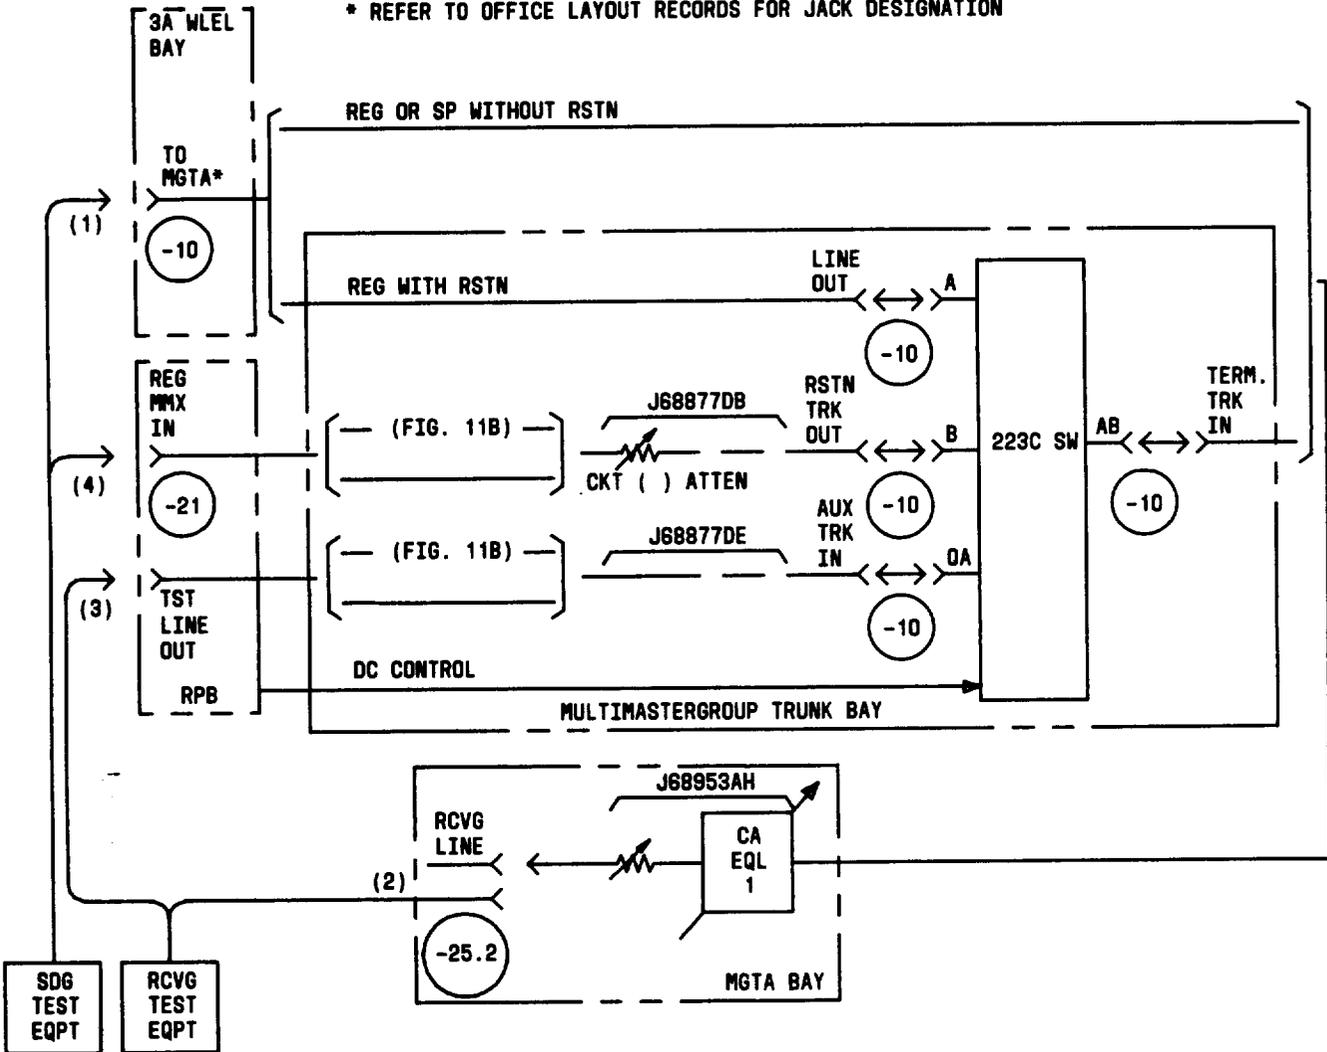

Fig. 10—Receiving Trunks for MGTA
26 Connect the STE to the appropriate **TO MGTA** jack in the WLEL bay [patch (1), Fig. 10].
31	Remove patch (2), Fig. 10
33	Make patch (3), Fig. 10. Note: The operated 223C switch completes a signal path between the A and 0A jacks on the switch.
35	Proceed to Step 36 if the requirement is met. Otherwise, continue signal tracing to locate and clear the trouble. Then repeat Steps 32 through 34. Note 1: Two zero-loss trunks (Fig. 11B) may be used in conjunction with this trunk. In this case, the zero-loss trunks should be tested as prescribed in Chart 10B. The zero-loss trunks are indicated in Fig. 10 by the designation Fig. 11B. Note 2: Chart 12 is a procedure for checking the cable equalizers in the J68877DB, J68877DE, and J68953AH panels.
37	Remove patches (1) and (3), Fig. 10.
39	Connect the STE to the REG MMX IN jack in the restoration patch bay [patch (4), Fig. 10].
40	<p>Connect the RTE to the plug removed from the RCVG LINE jack in the MGTA bay [patch (2), Fig. 10].</p> <p>Note: The operated 223C switch completes a signal path between B and AB jacks on the switch.</p>